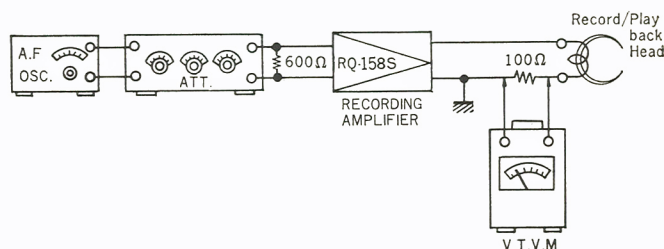

Fig. 6
Measuring Circuit: Refer to Fig. 6.
2. As shown in Fig. 6, connect output of AF Oscillator to Microphone Input Jack of model RQ-158S through Attenuator (terminate with $600\ \Omega$ if impedance of attenuator is $600\ \Omega$). Disconnect wiring from ground side of Record Head; insert $100\ \Omega$ resistor between lead wire and terminal; connect V.T.V.M. across resistor.